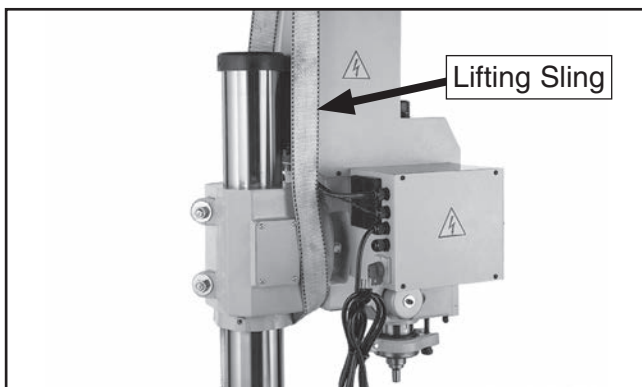

Figure 14. Lifting sling position.
3. Place lifting sling around headstock (see **Figure 14**), and attach it securely to forklift (or other power lifting equipment).